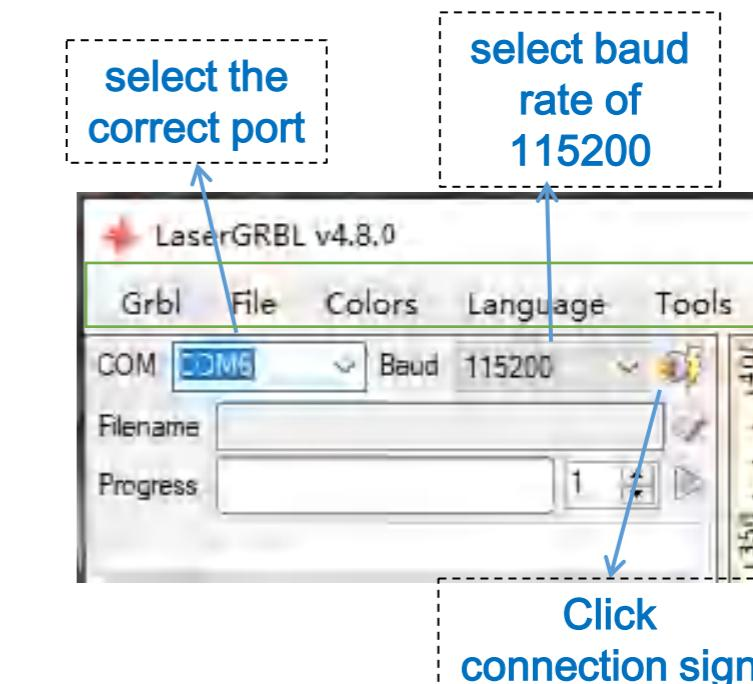

Figure 4.4
Step 4: Select the correct port number and baud rate in the software - 115200 (figure 4.4) (in general, the COM needn't be chosen manually, but if you have multiple serial devices, you'll need to select them manually when connecting to the computer. The port of the laser engraving machine can be found in the Device Manager on Windows. An easier way is to try each port number displayed).